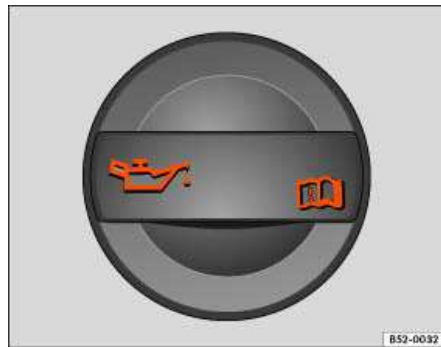

Fig. 180 In the engine compartment: Engine oil filler cap.
4. Find the oil filler opening and the dipstick. You can identify these by the e symbol on the engine oil filler cap ⇒ fig. 180 and the colored handle on the dipstick. If you are not sure where the cap and
9. Remove the cap on the engine oil filler opening ⇒ fig. 180.